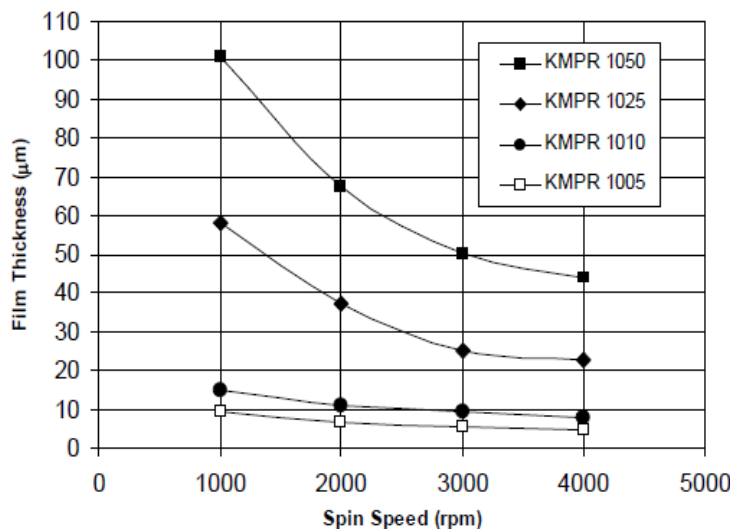

Figure 1. Spin speed vs. Thickness for KMPR® 1000 resists (21°C US & EU)
- b. Step 2 of 2: Refer to KMPR data sheet to determine the spin speed necessary for desired thickness, 30 sec (Figure 1)